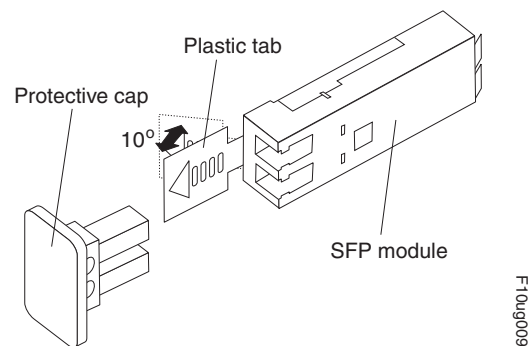

Figure 85. Unlocking the SFP module latch - plastic variety
- For SFP modules that contain plastic tabs, unlock the SFP module latch by pulling the plastic tab outward 10°, as shown in Figure 85.